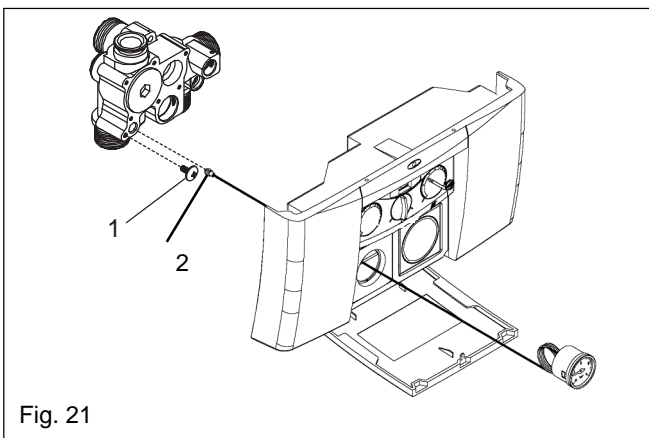

Fig. 21
**6.9 PRESSURE GAUGE (see fig. 21)**